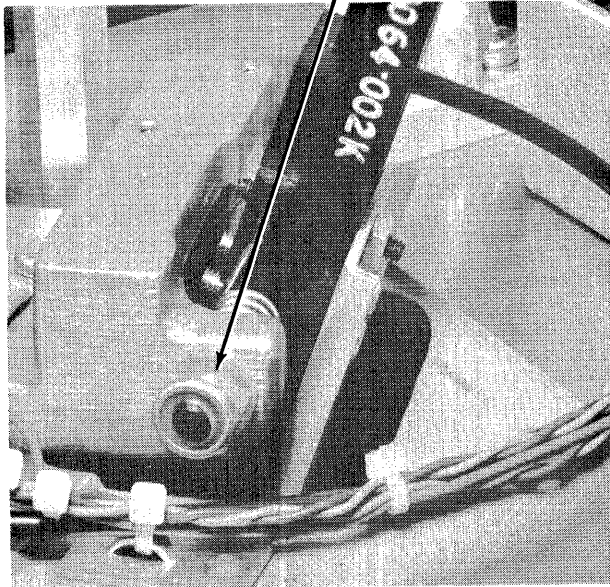

Figure 5-73. Radial Adjustment Locknut
- g. Adjust radial adjustment nut on sector/index transducer mounting block (see Figure 5-73).